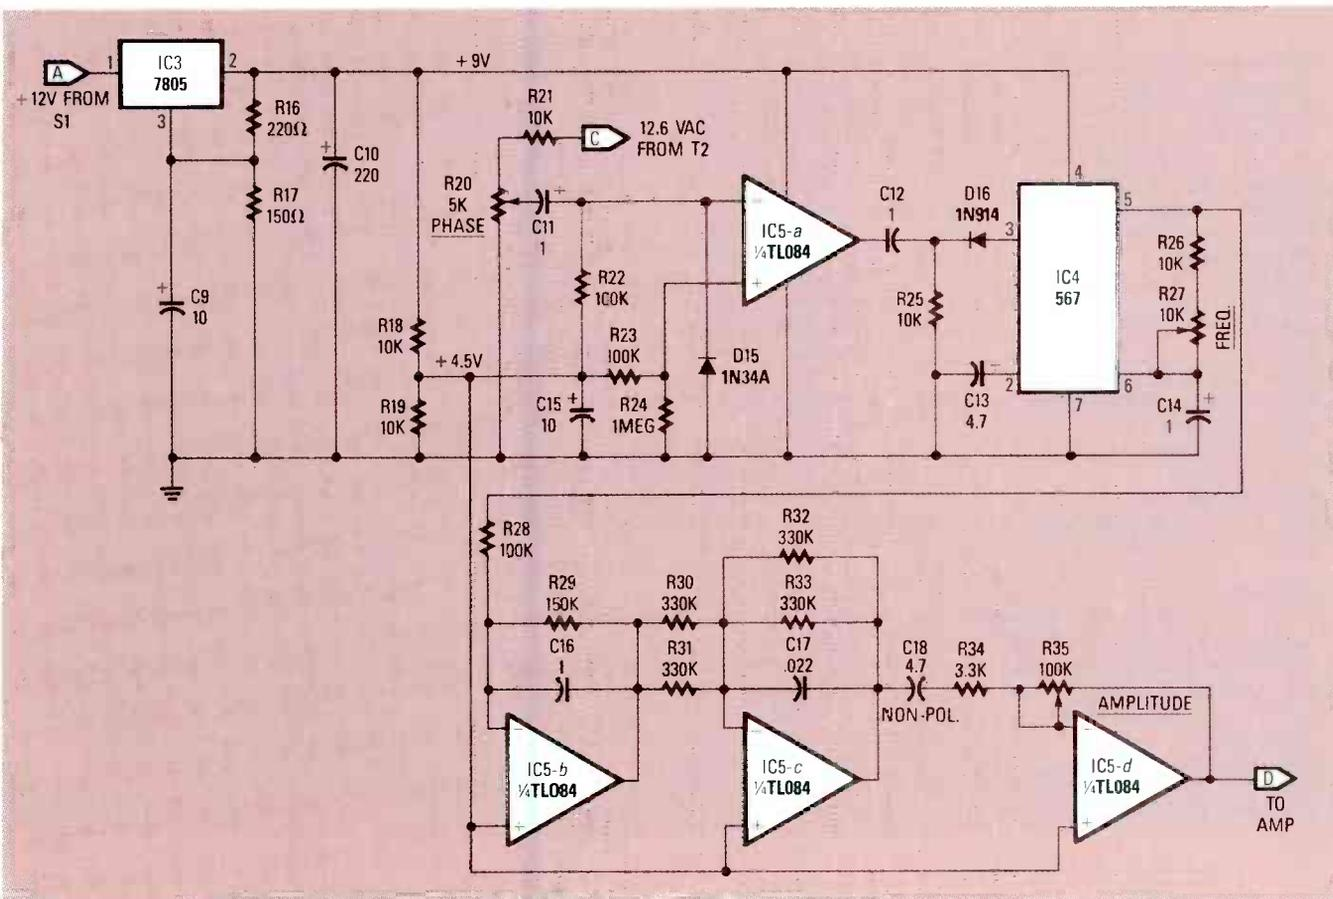

FIG. 3—THE TONE GENERATOR first develops a 60-Hz squarewave. IC5-b and IC5-c then shape the squarewave into a sinewave.
FIG. 3—THE LCD DISPLAY LOOKS LIKE THIS when data is received. In addition to the numeric data, the display shows the memory it's in and the access ("C") code being used. The unit is shown in its charger base, which permits simultaneous reception and charging of the NiCd batteries.
Figure 3 shows how a typical readout is displayed. Note that the display shows the memory (1) along with its data—**Radio-Electronics'** phone number—that's when they tried to reach me while I was in Disneyworld—and the letters "C1." C1 indicates it's my first access code, meaning the call originated at **Radio-Electronics** because they are the only ones who know my C1 access code. A C2 would have indicated my children were calling because only they have my C2 access code. A C3 would mean that the central station that is dialed by my home's security system in the event of fire, flood, break-in, or other hazard, is trying to reach me because only they have my C3 access code.
The Class-A drivers, transistors Q2 and Q3, also consist entirely of emitter followers. The necessary voltage step-up is provided by T3 and T4, which are also standard power transformers connected in reverse. Transistor Q1 drives Q2 and Q3 in parallel. The base of Q1 is directly coupled to the output of IC5-d (see Fig. 3), which is at 4.5 volts DC. Phase reversal for push-pull drive of the output stage is accomplished with proper connection of the secondaries of T3 and T4.
As shown in Fig. 3, the oscillator is built around IC4, a 567 tone detector. The IC's free-running frequency is controlled by resistors R26 and R27, and capacitor C14, and is set as close